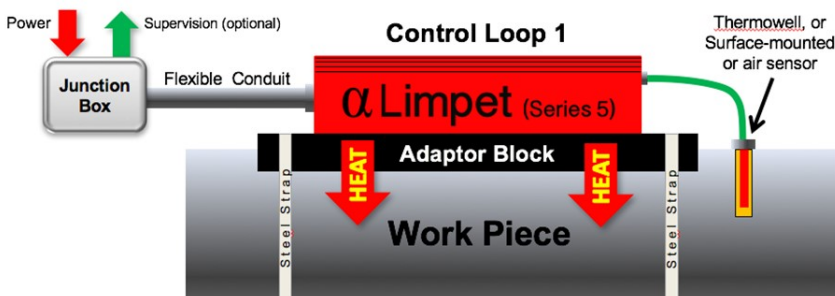

Figure 3—Typical Series 5 AlphaLimpet application with a second control loop connected to an external sensor
- A typical arrangement with a Series 5 AlphaLimpet is shown in Figure 3.